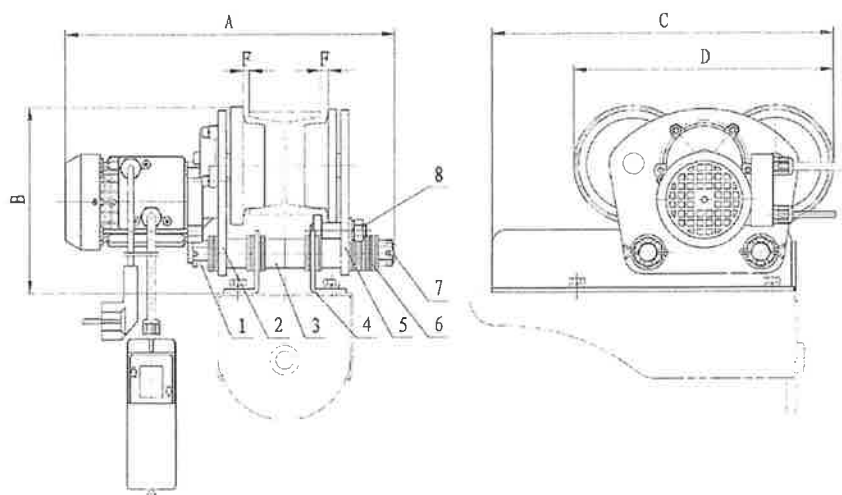

Fig.2
2. See Figure 2, loose the nut (1) which in the right main frame(5) side out of the connecting shaft(7), remove the right main frame, spacers(3), etc. T hen place the hoist connector(4) into the connecting shaft according the figure shows(note: **load spacers and appropriate washers(6) between the left, right hoist connector**).
3. Put the road wheel which in the left main frame(2) side on the lower edge of "I" steel beam, then place the right main frame into the connecting shaft, and making the right road wheel rested on the other side of the "I" steel beam(note: **place the washers inside or outside of the main frame to make clearance "F" = 1.5 ~ 2 mm**), then screw on nut (not screw up). Hang light load to test run, while the wheel adjust to contact the track of the "I" steel beam, clamp the balance(8) (to make the bearing on the bottom of the "I" steel beam ,then tighten the lateral nut). Tighten the nuts on the both sides of the connecting shaft. lastly insert the split pin.